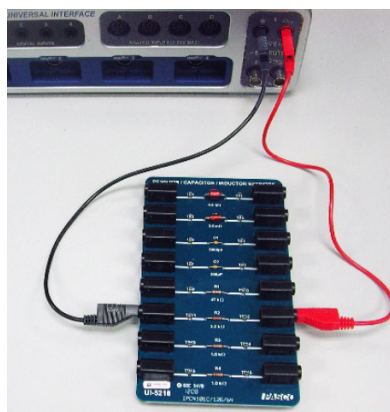

Figure 4: Initial Circuit Setup
1. Setup the circuit using the $3.3\text{ k}\Omega$ resistor as shown in Figure 4 on the previous page.